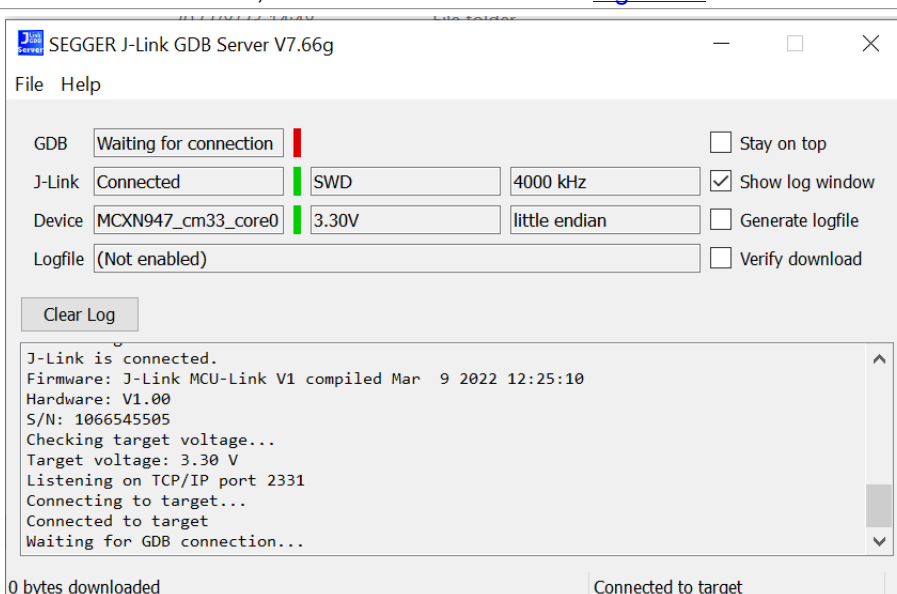

Figure 51. SEGGER J-Link GDB Server screen after successful connection
- After it is connected, the screen should look like Figure 51.